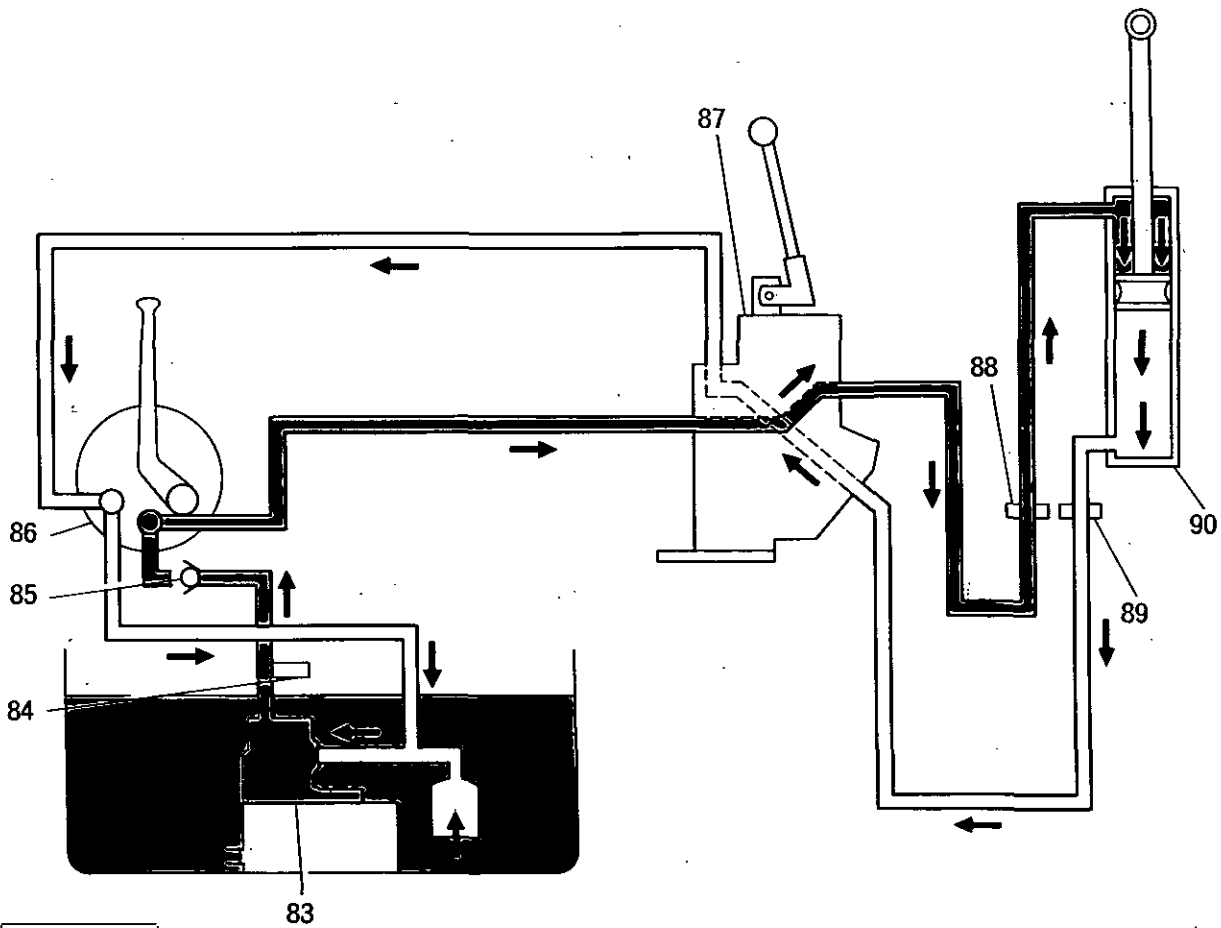

FIG. 17A
**Double-Acting Ram-Wooster Spool Valve****Lowering (Lever Forward)** Fig. 17A and 17B